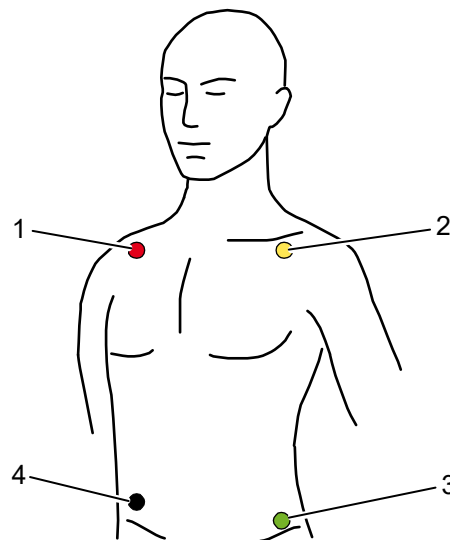

Fig. 6-3 ECG monitoring, applying the ECG electrodes (shortened form)
- Red ECG electrode: right arm; shortened: under the right clavicle (Fig. 6-3, item 1)
- Yellow ECG electrode: left arm; shortened: under the left clavicle (Fig. 6-3, item 2)
- Green ECG electrode: left leg; shortened: in the area of the left inguinal fold, central to the axis of the leg (Fig. 6-3, item 3)
- Black ECG electrode: right leg; shortened: in the area of the right inguinal fold, central to the axis of the leg (Fig. 6-3, item 4)